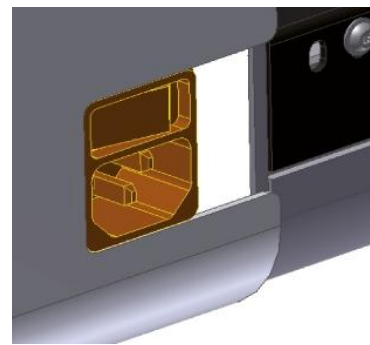
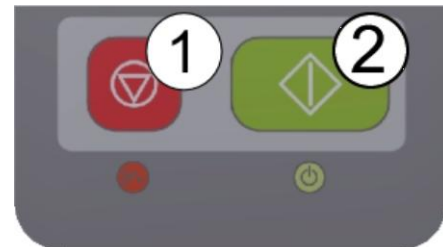

Figure 3.1: Position of ON / OFF switch
Figure 3.2: Control panel
The scanner is switched ON by a toggle switch at the back of the device. The switch is located above the mains plug (see Figure 3.1). If the device is switched ON, the operating LED under the green button (2) on the control panel (see Figure 3.2) lights up.